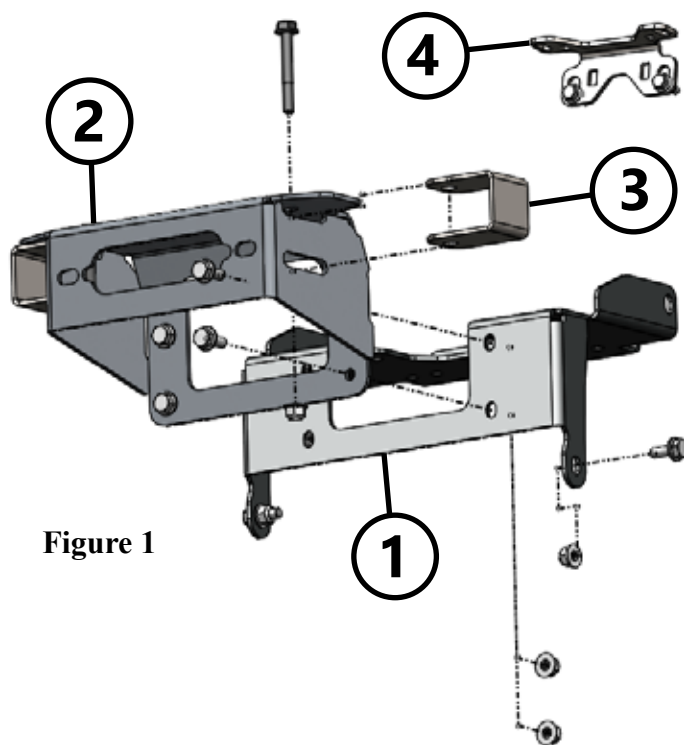
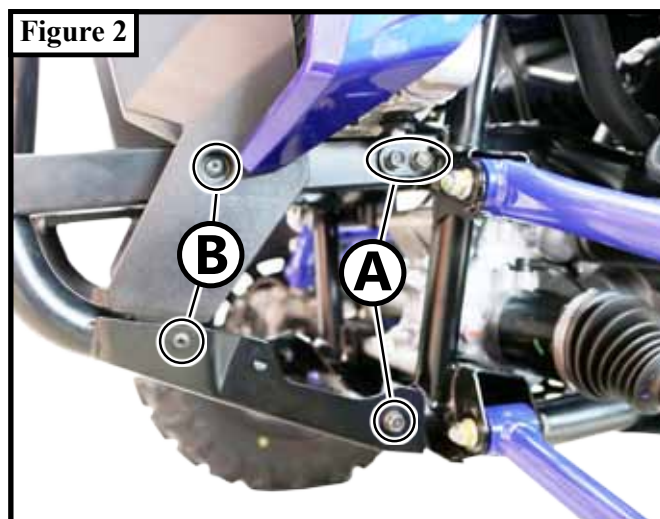
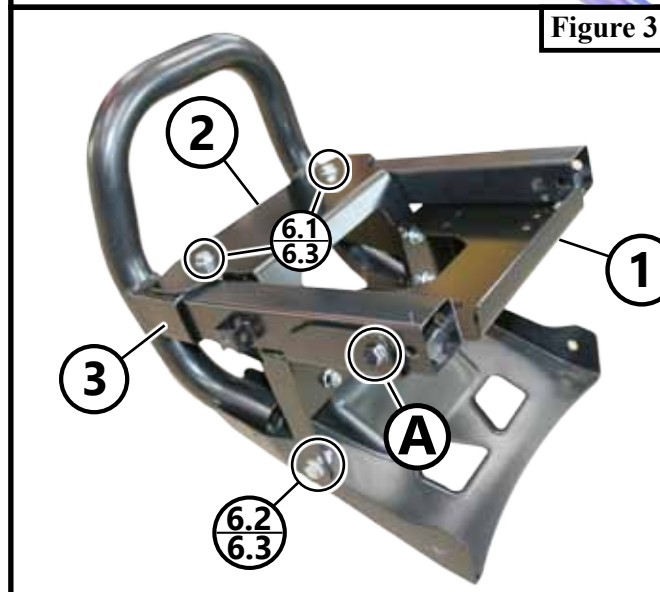

Figure 1
Figure 2
Figure 3
1. Remove front bumper by removing bolts (A) and (B) shown in **Figure 2** on both the passenger and driver side of the vehicle.
2. Set winch mount plate (1) into place and insert one of the top OEM bolts (A) removed in step one through the bumper and the mount to hold the mount in place as shown in **Figure 3**. Bolt bottom of mount to the bumper fascia using M8 bolt (6.2) and M8 nut (6.3) as shown in **Figure 1 & 3**.
3. Set fairlead mount (2) into the bumper and insert the two square tube brackets (3) over the square tube frame on the bumper and into the fairlead bracket as shown in **Figure 1 & 3**. Loosely fasten using M8 bolts (6.1) and M8 nut (6.3)
1. Remove the hood and the top plastic cover by removing the plastic push rivets and bolts labeled (C) as shown in **Figure 1**.
2. Bolt the contactor bracket (4) provided with your winch mount to the OEM contactor location as shown in **Figure 2 & 3** using two of the contactor bolts supplied with your winch. **Note:** the holes in the OEM contactor location may need to be drilled out to fit the bolts through. Bolt the contactor supplied with your winch to the contactor bracket (4) as shown in **Figure 3**.
3. Using the pre-ran OEM positive (+) and negative (-) battery cables shown in **Figure 2** wire your contactor and switches per your wiring instructions provided in the winch manual. **Note:** you will need to connect the red positive (+) battery cable to the battery located under the rear driver's side fender as shown in **Figure 4**. The black negative (-) battery cable is already grounded.
Located near the OEM contactor location is a blue plug attached to the frame tube of the machine with a green and a white/black wire as shown in **Figure 2 & 5**.